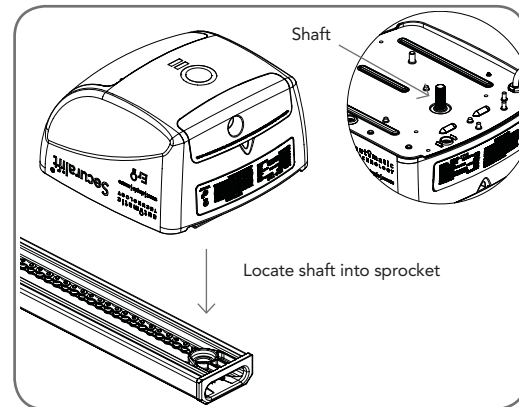

fig 11
- Locate and insert the shaft of drive unit into the C-Rail's sprocket (**Fig. 11**).